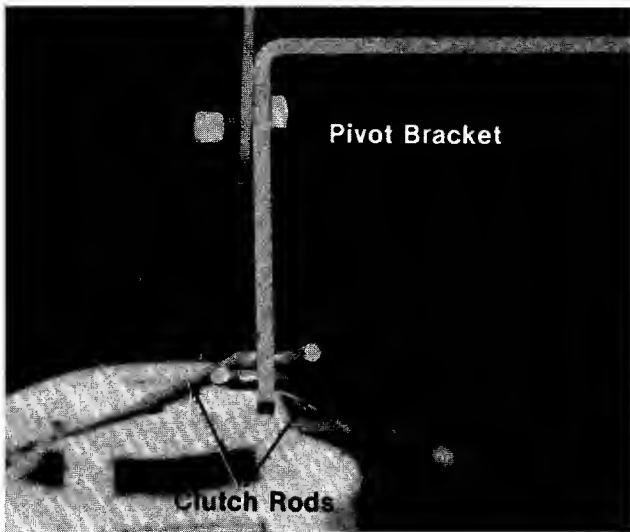

FIGURE 10.
2. Hook the clutch rods into the slotted hole on the long side of the pivot bracket, located beneath the handle panel. The right hand rod hooks on the bottom. See figure 10.